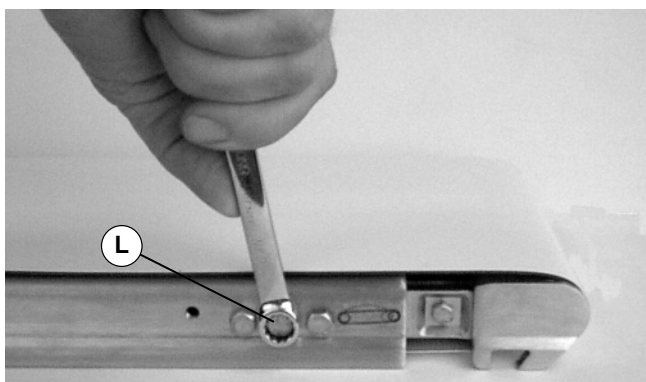

Figure 3
2. With pinion gear engaged, place a 10 mm wrench on lock screw (L of Figure 3).